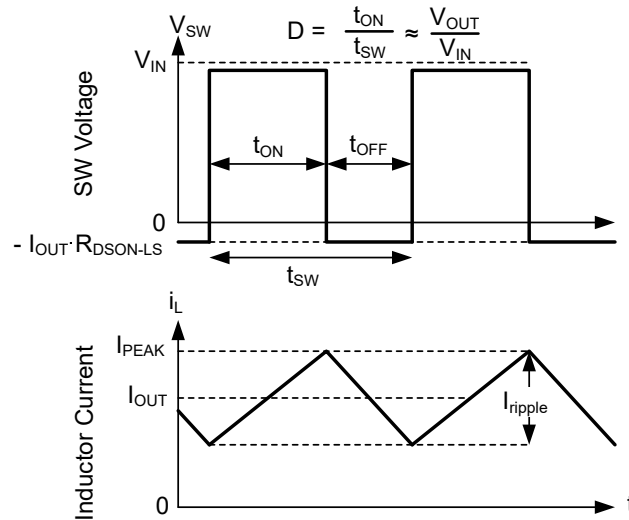

Figure 7-16. SW Voltage and Inductor Current Waveforms in Continuous Conduction Mode (CCM)
The following operating description of the device refers to Section 7.2 and to the waveforms in Figure 7-16. In CCM, the device supplies a regulated output voltage by turning on the internal high-side (HS) and low-side (LS) switches with varying duty cycle (D). During the HS switch on time, the SW pin voltage, V_{SW} , swings up to approximately V_{IN} , and the inductor current, i_L , increases with a linear slope. The HS switch is turned off by the control logic. During the HS switch off time, t_{OFF} , the LS switch is turned on. Inductor current discharges through the LS switch, which forces the V_{SW} to swing below ground by the voltage drop across the LS switch. The converter loop adjusts the duty cycle to maintain a constant output voltage. D is defined by the on time of the HS switch over the switching period: